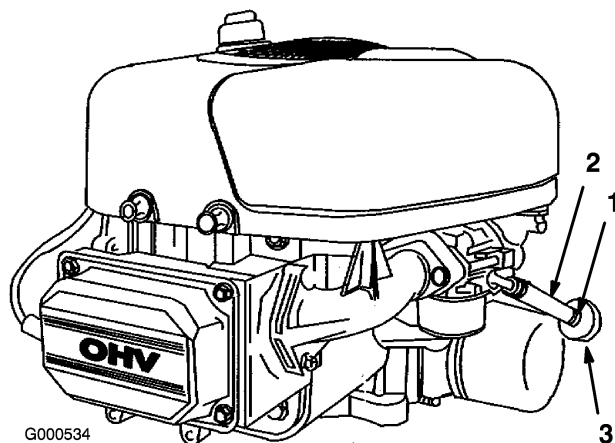

Figure 29
4. Squeeze the ends of the hose clamps together and slide them away from the filter (Figure 29).
6. Install a new filter and move the hose clamps close to the filter (Figure 29).